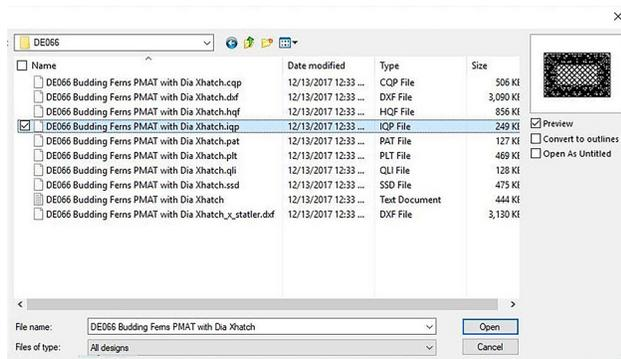

Fig. 88
3. Open the design you want to convert to BQM (Fig. 88). Any file format will work, but IQP and QLI formats do especially well.